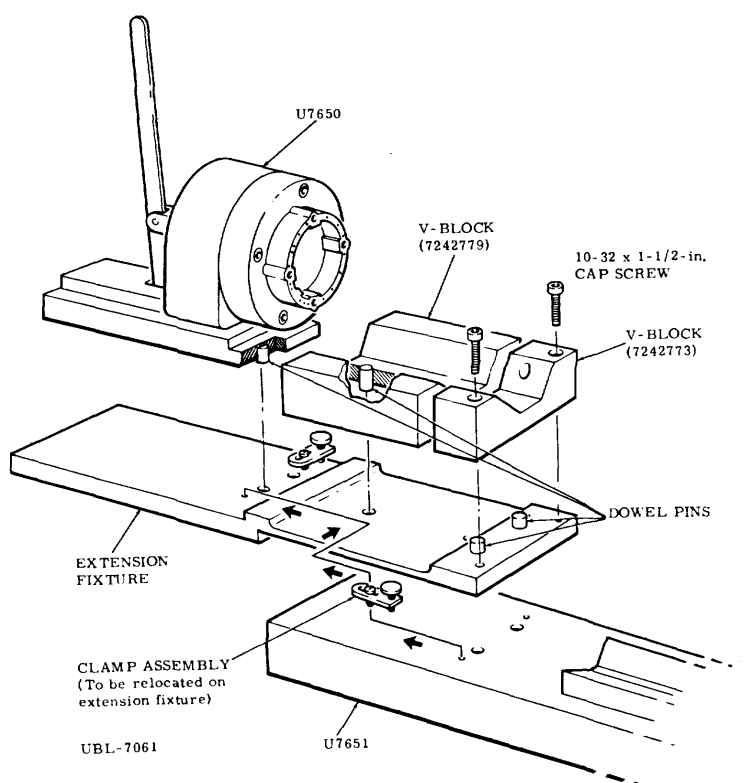

Figure 4-3P. Fixtures for Test Setups of CAEDET Family of Sensors.
- a. Install U7650 connector assembly, extension fixture, and V-block fixtures on U7651 fixture as shown in figures 4-3P and 4-3Q.